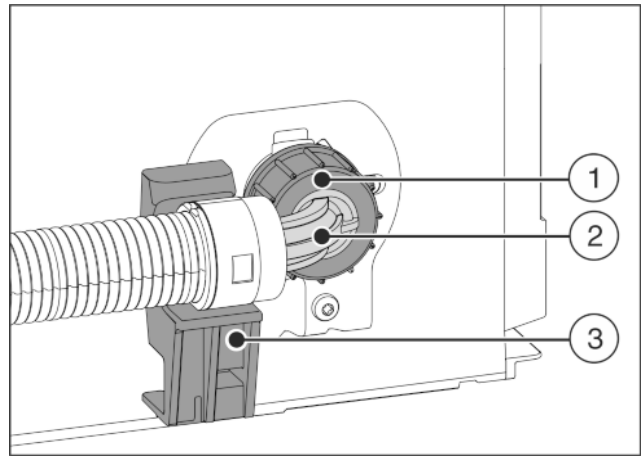

Fig. 21
- ▶ Position and hold the angled hose end Fig. 21 (2) horizontally at the holder Fig. 21 (3).
- ▶ Screw the nut Fig. 21 (1) onto the thread by hand until securely in place.